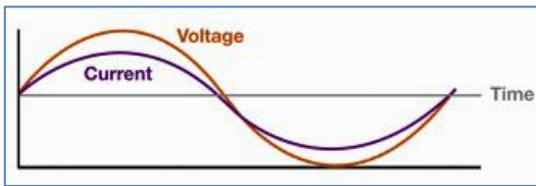
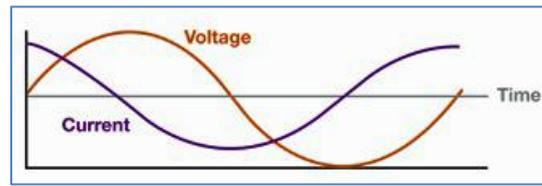

Figure 4. Aligned voltage & current cycles
Figure 5. Current cycle slightly delayed
But whatever the frequency of an a.c. circuit, electrical power is used efficiently when the current to drive any connected equipment is aligned, as in Figure 4, with the voltage cycle or “electrical potential”. However, in practice because of the many motors and other inductive loads most electrical equipment draws current from a circuit with a degree of delay. This means, as in Figure 5, it is no longer ideally aligned with the voltage cycle and expensively draws more current than is strictly needed. The Power Factor (PF) is an industry recognised standard for measuring how efficiently (or not) a piece of equipment is drawing power.